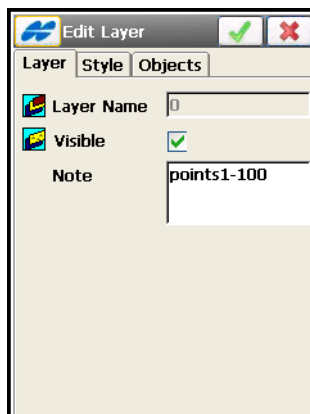

Figure 6-30. Edit Layer Name
- **Edit** – opens the applicable **Edit Layer** screen to display the properties of the highlighted layer (Figure 6-30 on page 6-25).
The *Edit Layer* screen (Figure 6-30 on page 6-25) is similar to the *Add Layer* screen but has the additional *Objects* tab to view objects on the layer.